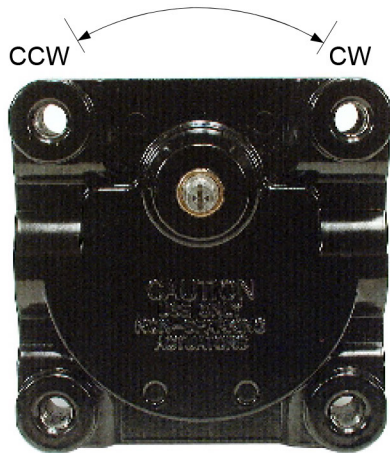

Figure 1. Shaft End View
2. Remove cover and set the function switch to enable the output to be increased by counterclockwise (CCW) or clockwise (CW) motion of the shaft. Refer to Figures 1 and 2.